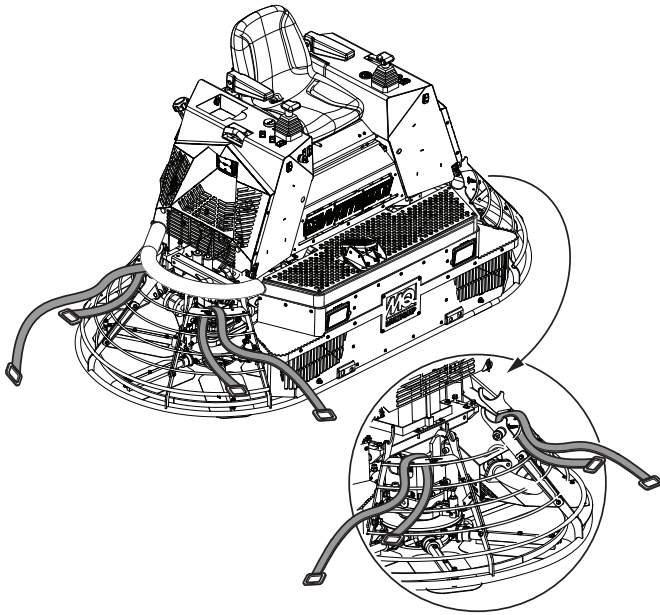

Figure 5. Routing Tie-Down Straps
2. Attach suitable tie-down straps to the trowel. Route tie-down straps on both sides as shown in Figure 5.